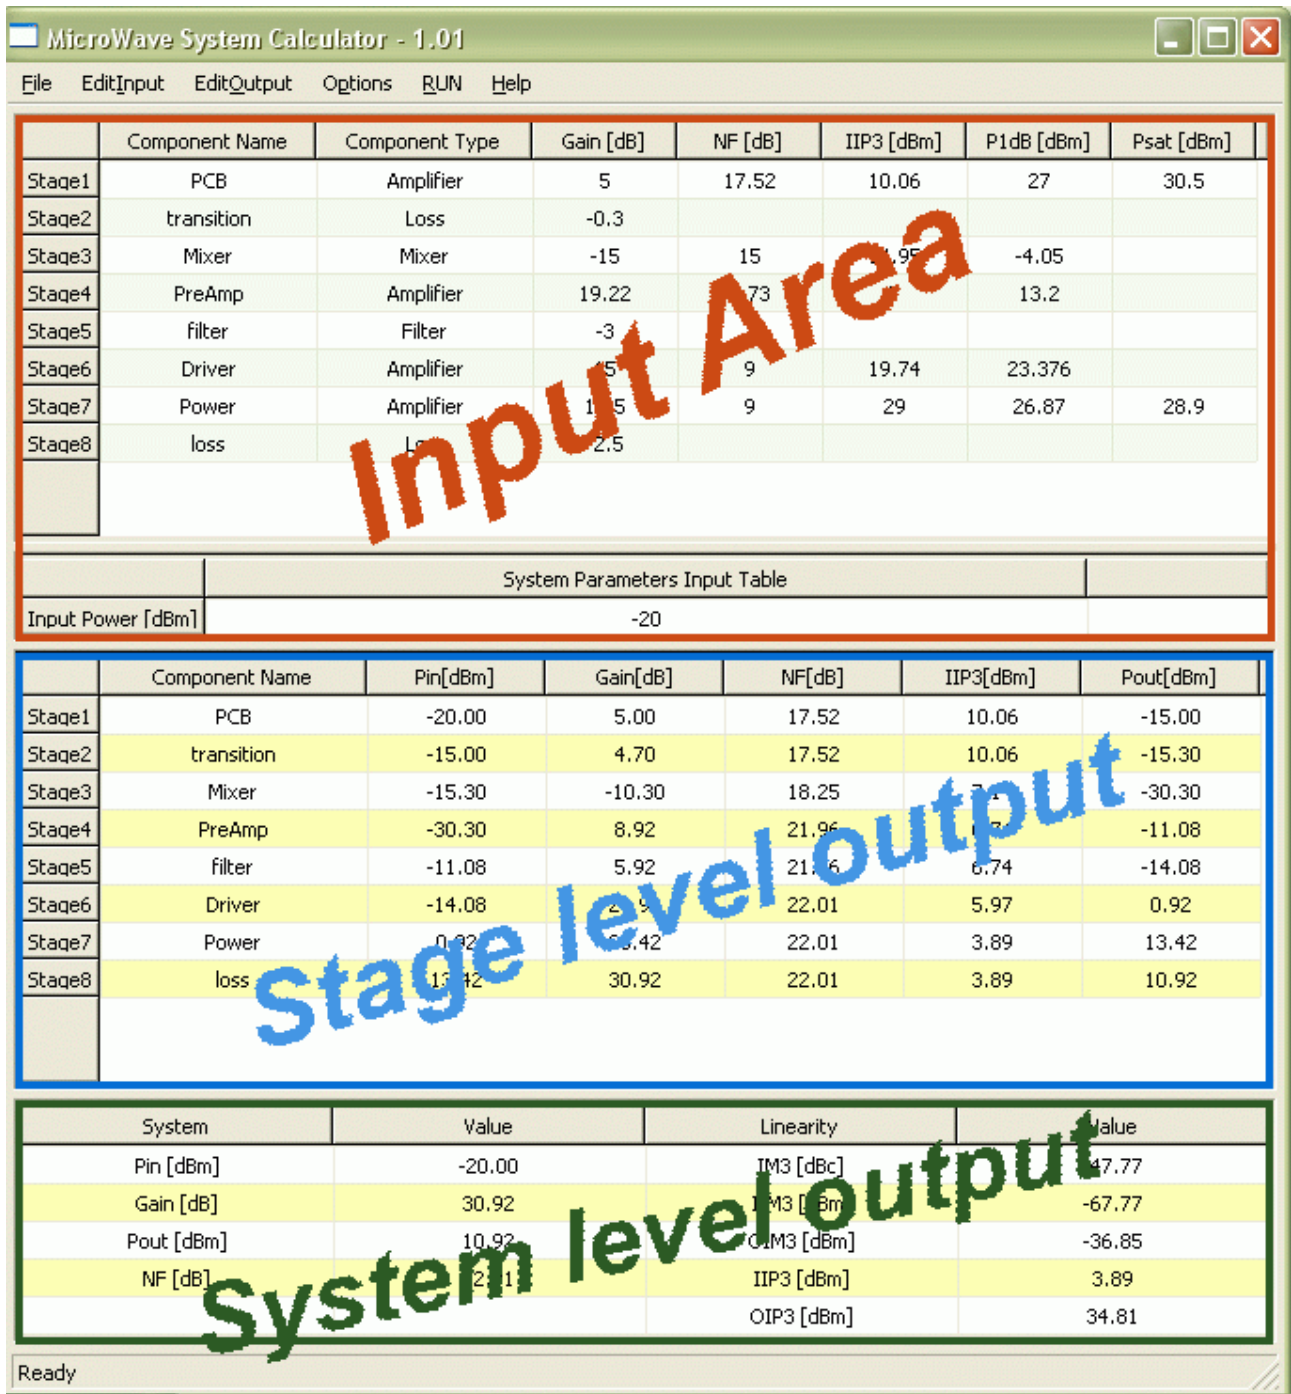

Figure 1: Mystic main window
| Figure 1: Mystic main window..... | 5 |
- On the higher part of the window (red box in Figure 1) you can edit the input file which describes the component chain constituting your system.
- output table at stage level (see blue box in Figure 1)
- output table at system level (see green box in Figure 1)